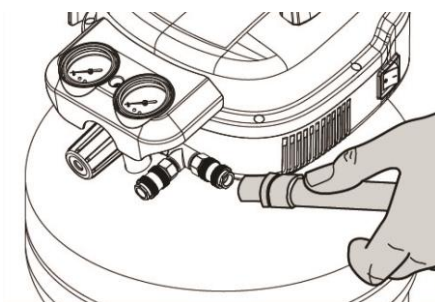

Figure 2
4. Connect air hose to the air compressor's air outlet (Figure 2).